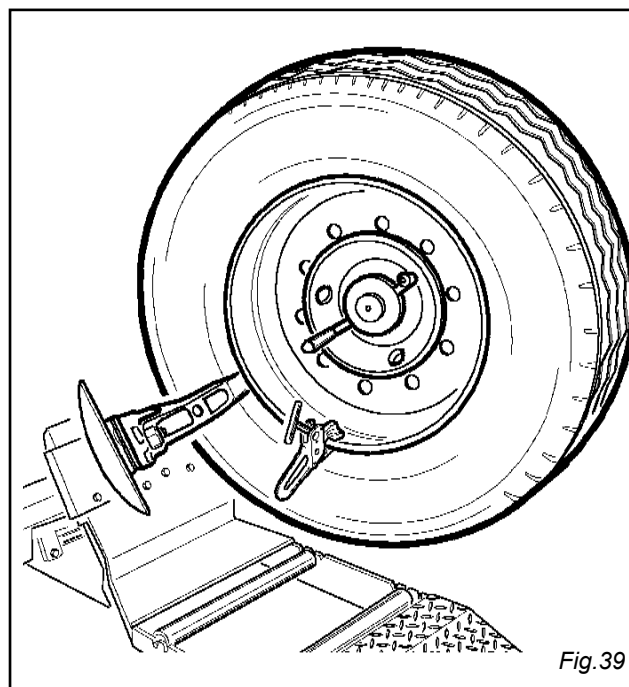

Fig.39
23) Turn the spindle **clockwise** until the tire is completely mounted on the rim. (Fig. 39)